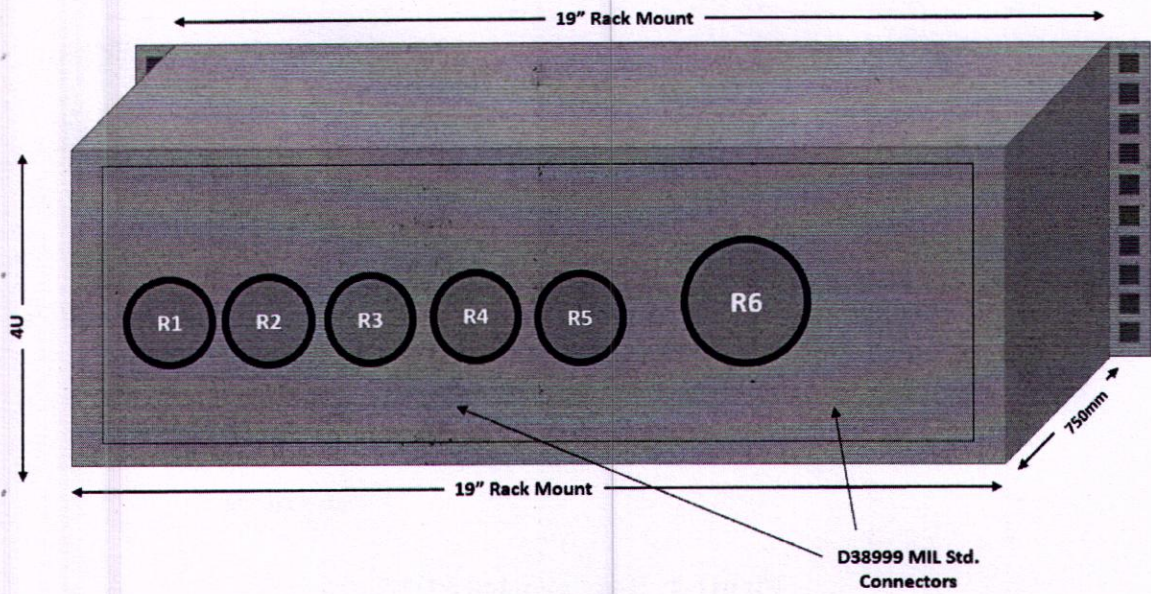

Figure 6: Rear Panel of PDU 3
- Rear panel shall be installed with D38999 connectors as shown in **Figure 6**.